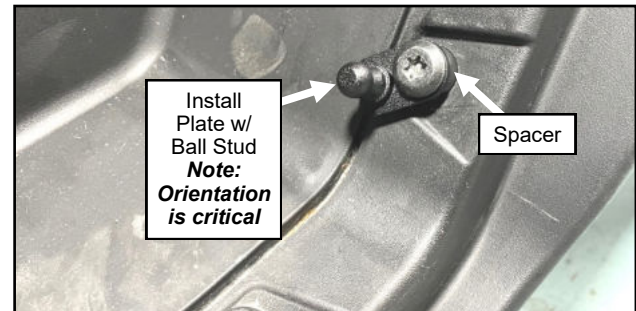

Fig. 1.2 (Install Vehicle Side Ball Stud)
1.2 Per figure 1.2, install spacer and door side ball stud using hardware removed on step 1.1. It is important to orient the plate down and toward center of vehicle as shown. Install on both the left and right side of the vehicle.